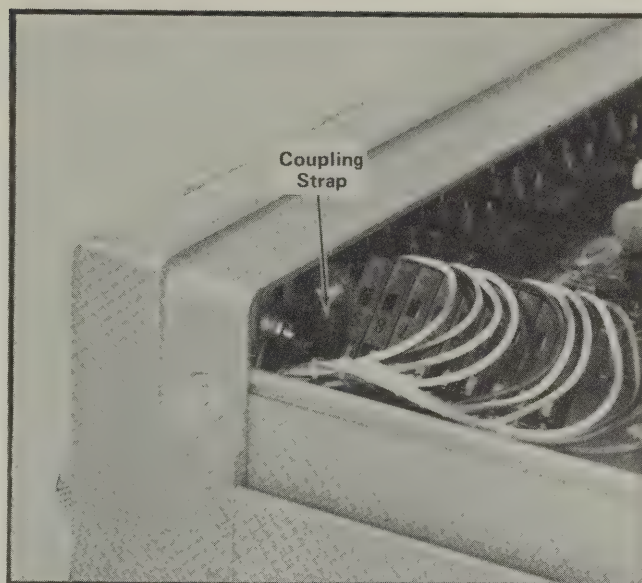

Fig. 4-8. Coupling strap between marker selector switch extrusion bar.
- d. Remove the screw holding the top of the coupling strap between the upper and lower switch extrusion bar, see Fig. 4-8.